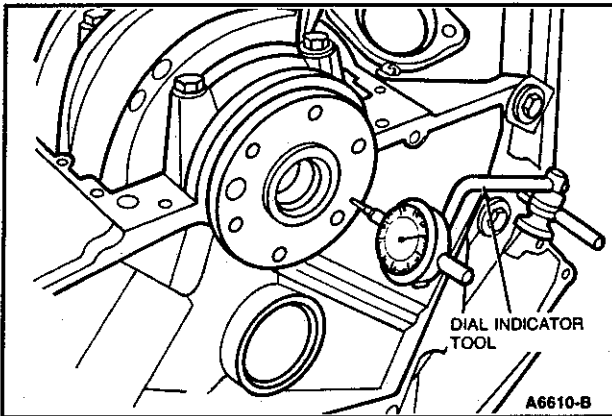

Figure 12 Checking Crankshaft End Play
2. Install a dial indicator so that the contact point rests against the crankshaft flange and the indicator axis is parallel to the crankshaft axis (Figure 12).